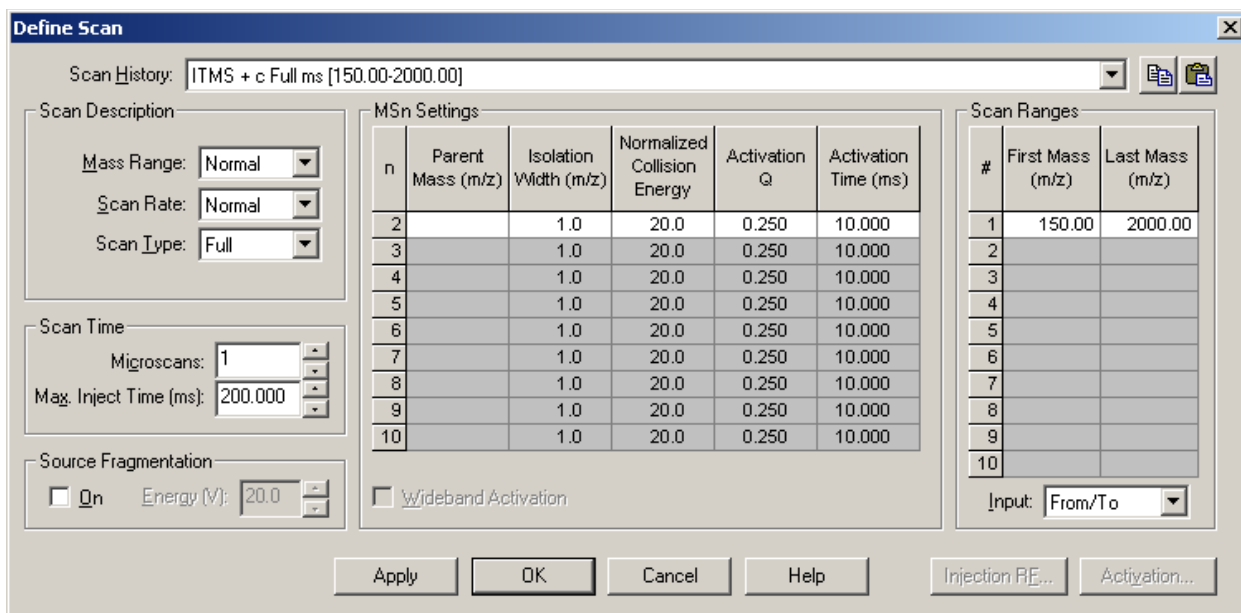

Figure 20. Define Scan dialog box, showing the default settings for ESI/MS operation
- a. On the Control/Scan Mode toolbar, click on the Define Scan button to open the Define Scan dialog box. See Figure 20. (If your dialog box appears different from the one shown in the figure, it is probably because the advanced settings are not displayed. You can turn on the advanced settings as follows: In Tune Plus, choose **ScanMode**, and then click on *Advanced Scan Features* to select the option.)
- k. Ensure that the settings in your Define Scan dialog box are the same as those shown in Figure 20.